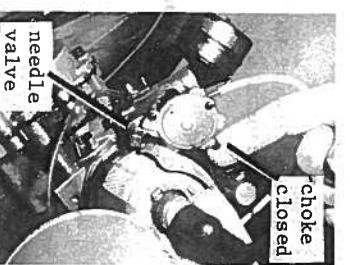

FIG. 14
- b. Move choke lever to full choke position, toward engine (figure 14).